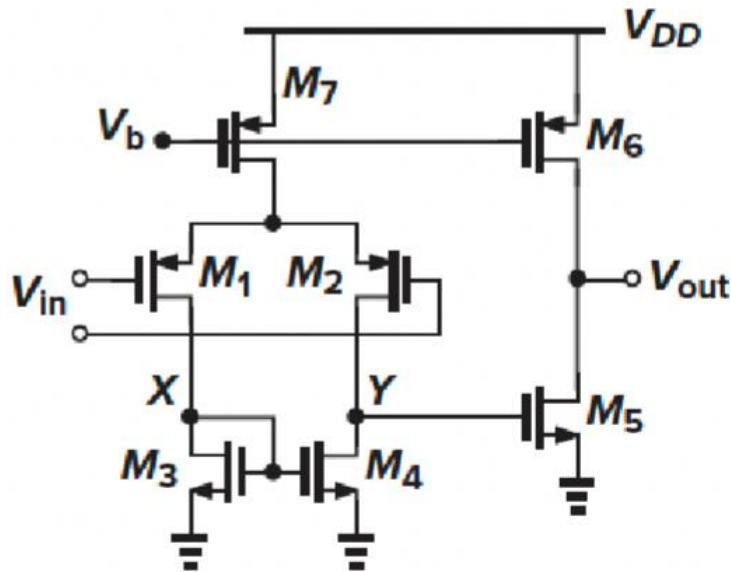

Fig.7.1
7.1 In this problem, we design a two-stage op amp based on topology shown in Fig 7.1. Assume a power budget of 6mW, a required output swing of 2.4V, and $L_{\text{eff}} = 0.5\mu\text{m}$ for all devices. Assume $\lambda=\gamma=0$ for bias purpose and $\gamma=0, \lambda\neq 0$ for small signal analysis.